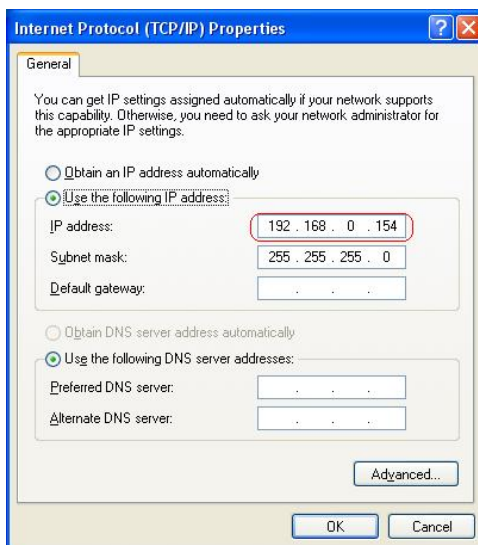

Figure 6-1
4. Give the GV-ASManager a fixed IP address that is NOT used by another device. See Figure 6-1.